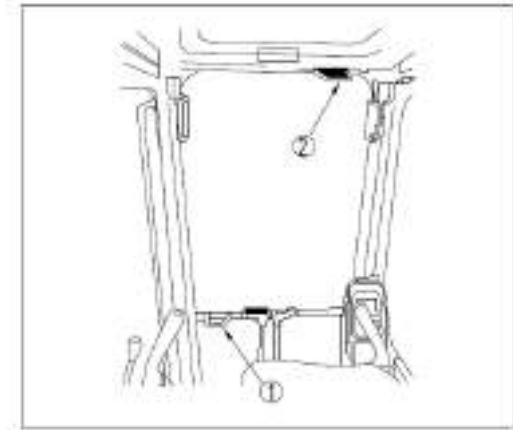

Figure 3-91 Skylight handle and gas springs
Pull the front handle lock knob (1), check whether the skylight is movable and then release the handle (1) to let the skylight open up under the force of the two gas springs at both sides (2), as shown in Figure 3-91.